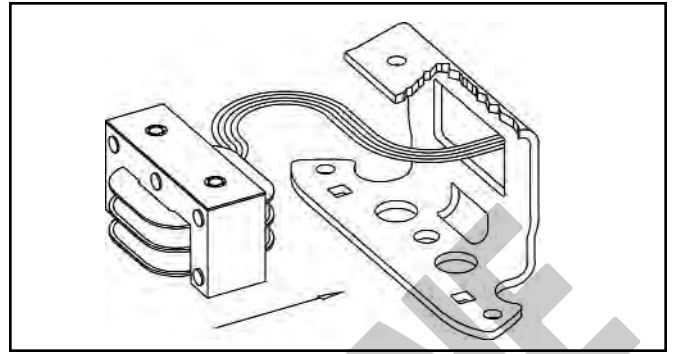

Figure 4
2. Remove cover locknuts (22) and cover (20).
4. Replace with new magnet assembly (15A), making sure shock mount (15B) is in place. Feed coil lead wires through hole in back of bracket (15C) as shown in Fig. 4. Tighten mounting screws (15D) with 55-60 lb. in. torque.